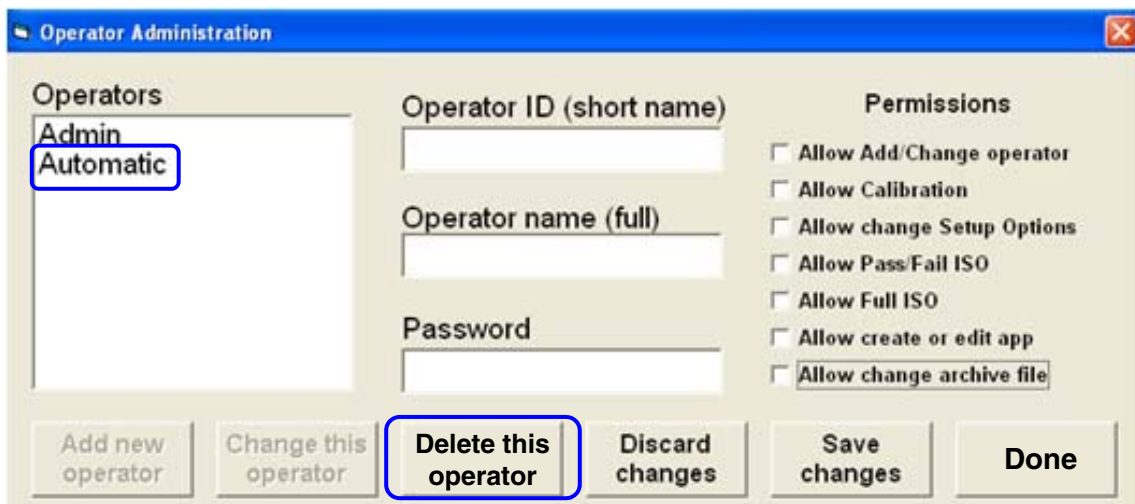

Figure 37: Click “Delete this operator”
60. Select “Automatic” from the “Operators” list (Figure 37).